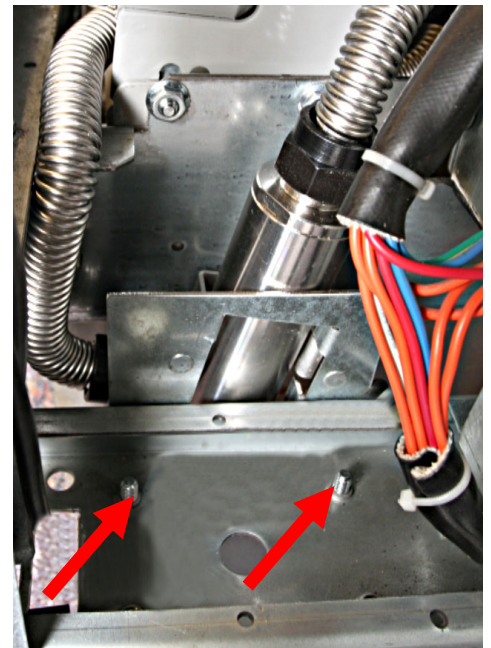

Figure 4
7. Attach the sensor assembly to the bottom of base channel using supplied bolts. The sensor is mounted using existing threaded holes in the channel (see Figure 4) . In some configurations, a caster is positioned here, and its left mounting bolts must be removed and replaced with the provided longer bolts to allow positioning of the sensor assembly on the caster mounting flange.